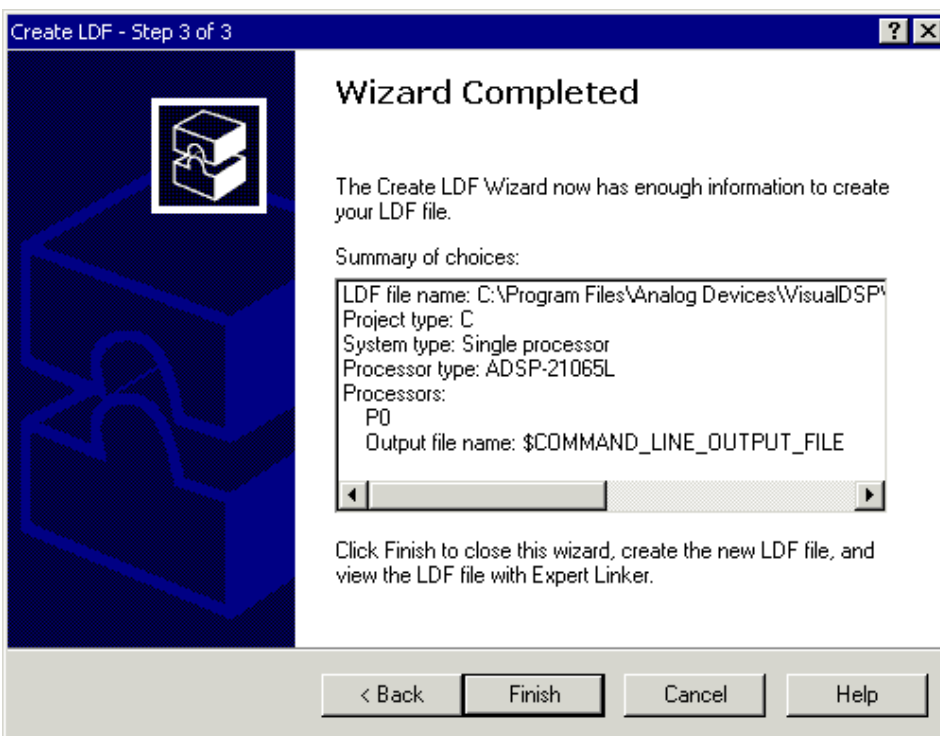

Figure 2-17. Create LDF – Step 3 of 3 Page
4. Accept the default values and click **Next** to display the next page (**Create LDF – Step 3 of 3**), shown in Figure 2-17 on page 2-24.